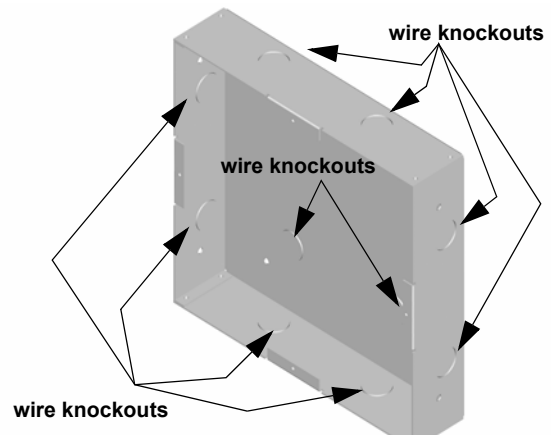

Figure 3 Backbox Knockout Locations
2. Remove the knockout holes to pull through the wires, as needed. See Figure 3 to identify the backbox knockout locations.
1. Remove the desired knockouts from the backbox. See Figure 3.